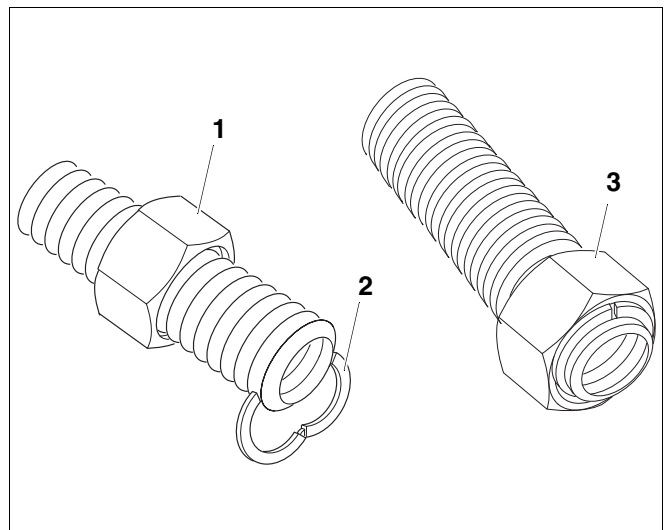

Fig. 2 Install the clamping collar
- Push the union nut (Fig. 2, **item 1**) over the corrugated stainless steel pipe.
Insert the clamping collar (Fig. 2, **item 2**) with the sharp edge towards the sealing face.
- Insert the clamping collar (Fig. 2, **item 2**) into the first valley of the corrugation and push the parts tightly together (use pliers if required).
- Then push the union nut (Fig. 2, **item 3**) over the clamping collar.